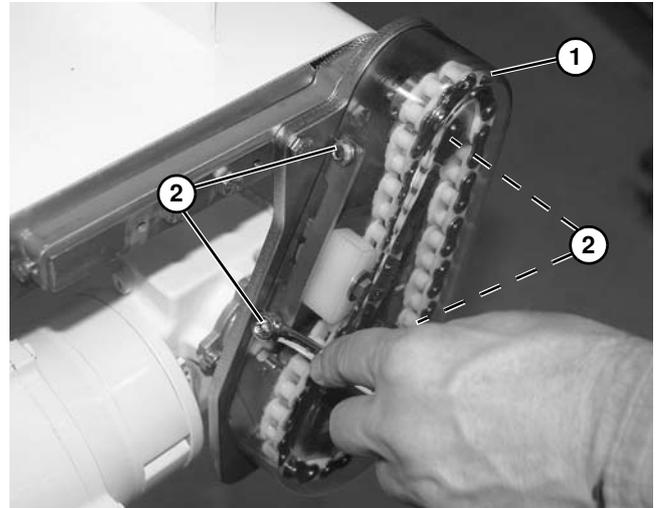

**Figure 43**
- Slide chain tensioner (**Figure 43, item 1**) to take up chain slack. Tighten chain tensioner screw (**Figure 43, item 2**).